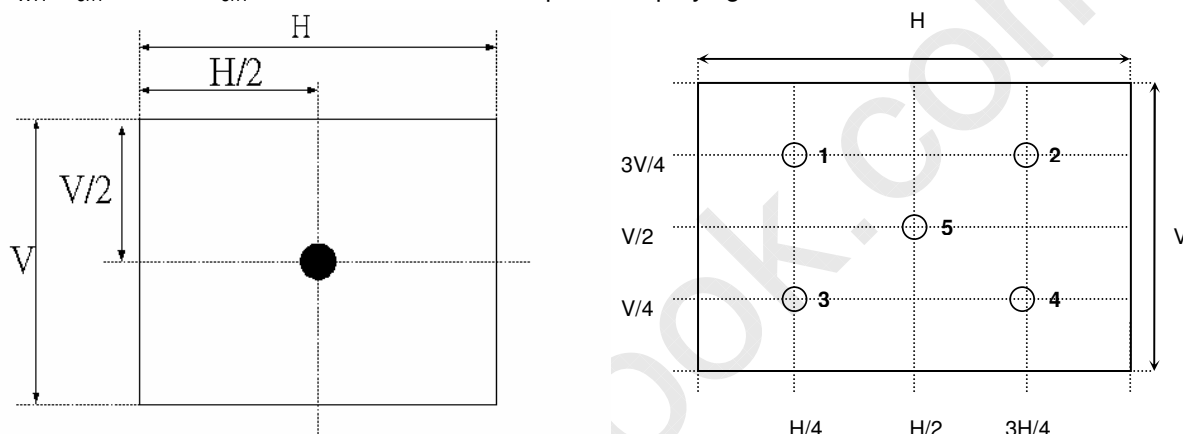

Fig.4-2 Optical measurement point
2. Surface luminance is luminance value at point 1 across the LCD surface 50cm from the surface with all pixels displaying white. From more information see Fig. 4-2. When $V_{DDB} = 24V$, $I_{DDB} = 6.4A$. $L_{WH} = L_{on1}$, Where L_{on1} is the luminance with all pixels displaying white at center 1 location.